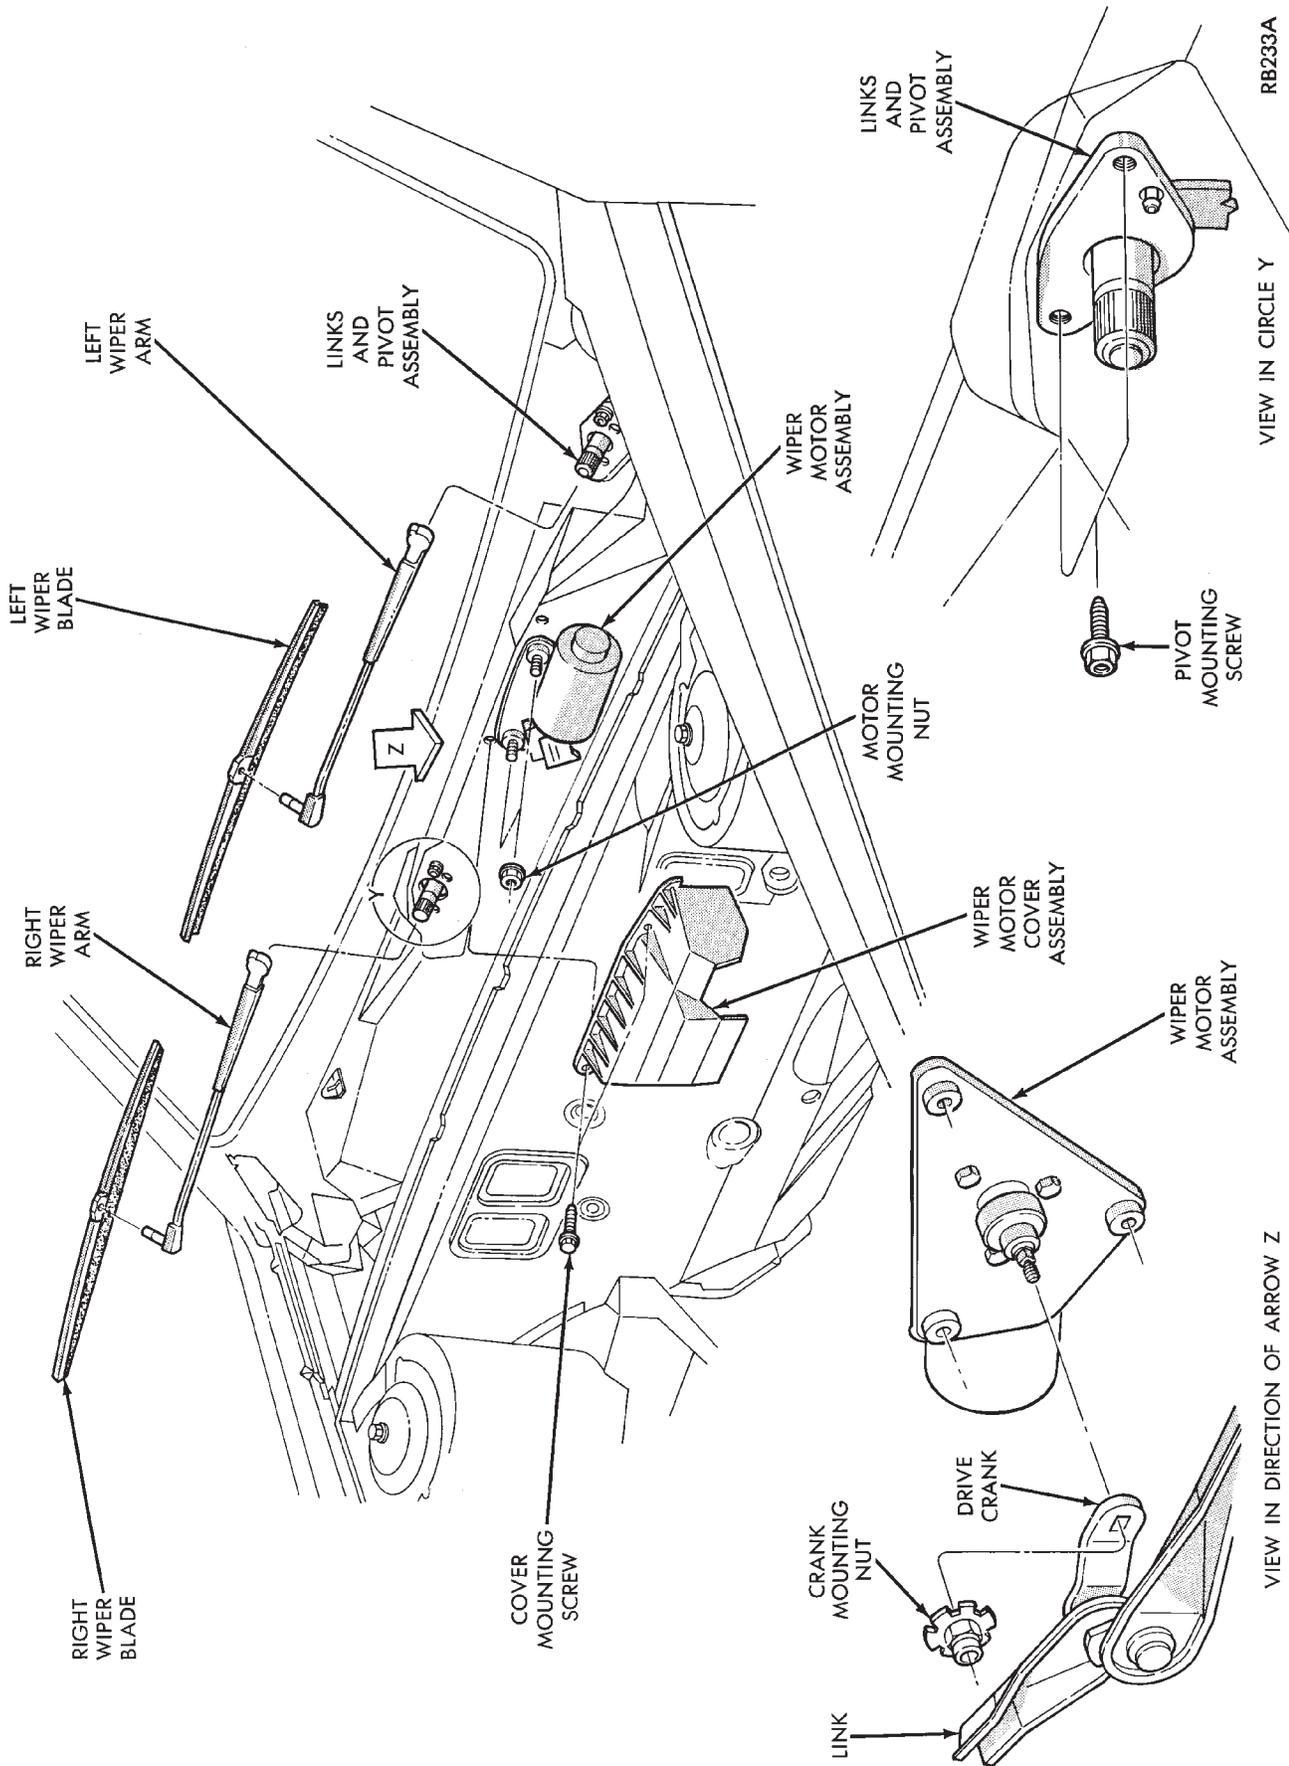

Fig. 16 Windshield Wiper Motor and Linkage—AG and AJ Bodies
(1) Park system.
(2) Open the hood assembly.
(3) Remove wiper arms and blades, disconnect hoses from tee connector (Fig. 16).